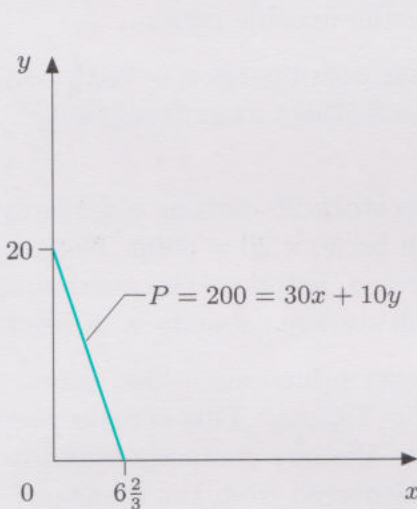
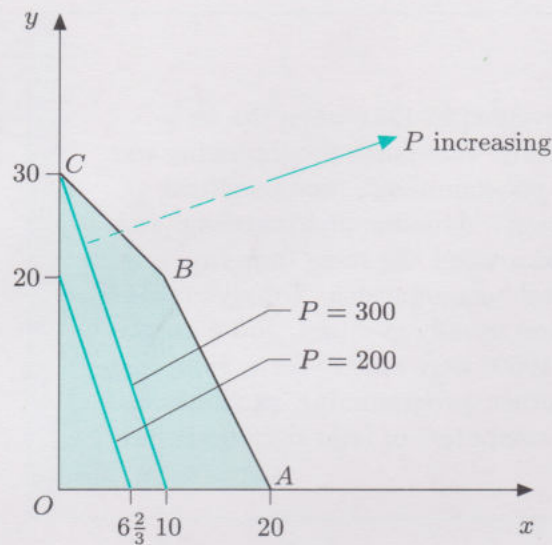

Figure 36
Figure 38
The manager’s problem is therefore to find the values of x and y , lying within the feasible region in Figure 36, which make the value of the profit P in equation (27) as large as possible.
- ◁ **Do the maths** ▷ Notice that if P in equation (27) is an actual number, say 200, then you get
Since the boundaries of the feasible region, shown in Figure 36, are straight *lines*, and the profit also corresponds to a straight *line*, the problem faced by the manager is an example of what is called a *linear programming* problem.
In Figure 36, the line with $P = 200$ cuts the x -axis at $x = 6\frac{2}{3}$ and the y -axis at $y = 20$.
The problem can be solved as shown in Figures 38 and 39. In Figure 38 the two lines $P = 200$ and $P = 300$ are superimposed on the feasible region from Figure 36.